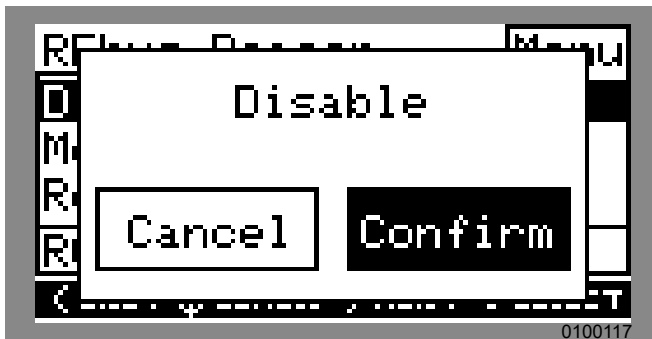

Figure 6-19. Disabling Beacon (2 of 3)
3. See Figure 6-19. Arrow sideways to Confirm and press the center button.